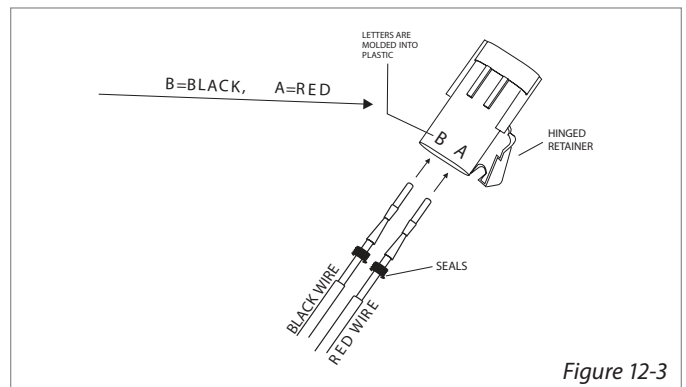

Figure 12-3
- Insert pins as shown. [Figure 12-3]